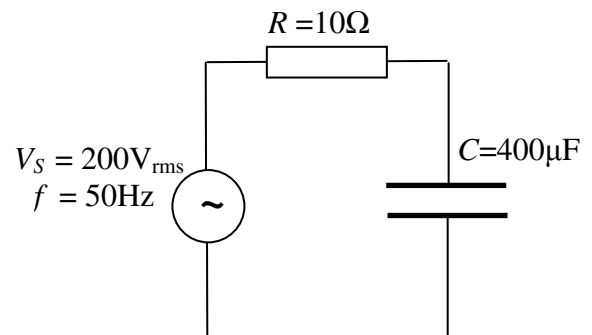
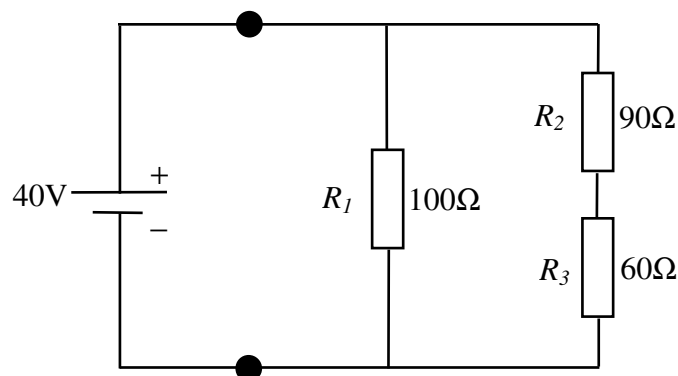

Figure 1.2
Figure 2.1
- (i) Calculate the magnitude and phase angle of the current drawn from the supply (3)
- (ii) What is the real power drawn from the supply and the power-factor of the circuit? (2)
- b. The resistance and capacitance are now reconnected in series with each other and connected across the same 200V_{rms} , 50Hz sinusoidal supply as shown in Figure 1.2.
- (i) Calculate the magnitude and phase angle of the impedance of the load. (2)
- (ii) Hence calculate the magnitude and phase of the current drawn from the supply. (1)
- (iii) What is the new power drawn from the supply? (1)
- c. An inductance, L , is then placed in series with the R and C of Figure 1.2 to form a series resonant circuit.
- (i) Write down an expression for the total impedance, Z , of the series resonant circuit in terms of R , L , and C . (1)
- (ii) State the condition for resonance and hence derive an expression for the resonant frequency, f_{resonant} (in Hz) of the circuit in terms of its components. (2)
- (iii) Sketch the variation of the magnitude of the total impedance, Z , with frequency, f , over the frequency range $f \ll f_{\text{resonant}}$ to $f \gg f_{\text{resonant}}$. (2)
- (iv) Sketch a phasor diagram for the circuit at resonance showing the relative direction of the voltages across each component. Take the current phasor as reference. (2)
- (v) Calculate the value of inductance which results in the maximum current being drawn from the 50Hz supply. What is the magnitude and phase angle of this current? (2)
- (vi) Calculate the voltage across the capacitor and inductor and hence find a value for the Q factor. (2)
- a. A battery with an electromotive force of 40V and no internal resistance is connected to a particular load which may be represented by a network of resistors, R_1 , R_2 and R_3 , as shown in Figure 2.1 below. Calculate:
- (i) the overall resistance of the load. (2)
- (ii) the current flowing through the series pair R_2 and R_3 . (1)
- (iii) the power dissipated in each of the resistors R_1 , R_2 and R_3 . (2)
- (iv) the total power dissipated in the load. (1)